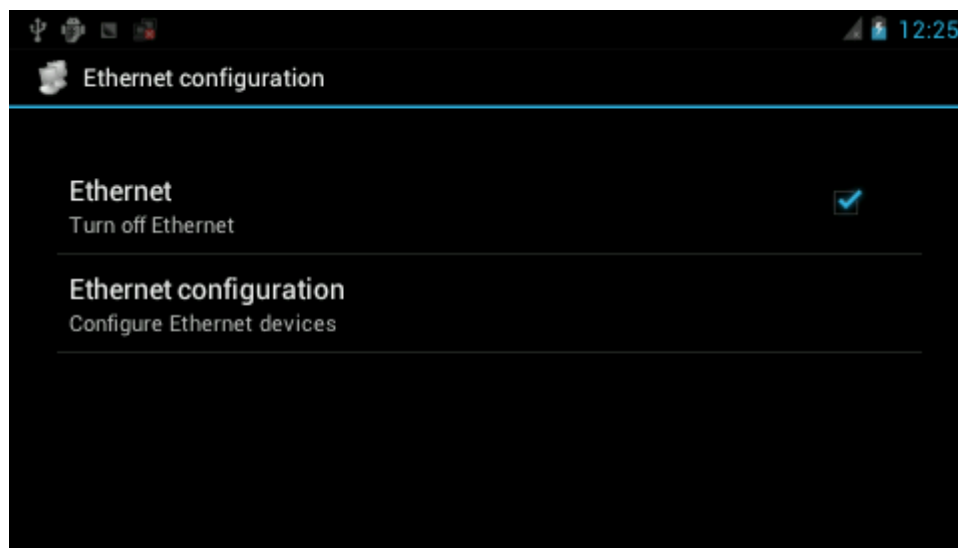

Figure 4-21
(1) Enter interface and select icon "Ethernet", refer to figure 4-21: